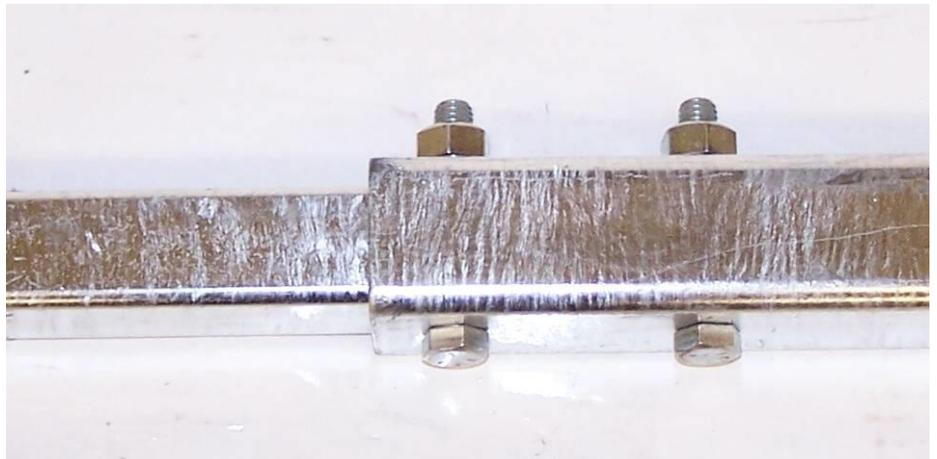

Figure 3
3. Slide the Adjustable Arms into the Main Arms. There are two sets of bolt holes; the first set of holes is for standard width tower leg and the second set is for extended width tower leg. Use the supplied 3" X 1/2" bolts to secure the two assemblies (Figure 3).